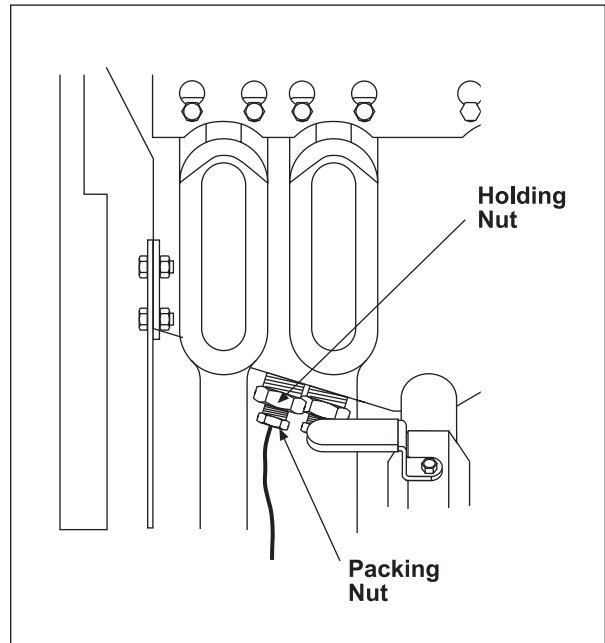

Figure 7
- Loosen the packing nut and holding nut (Figure 7).